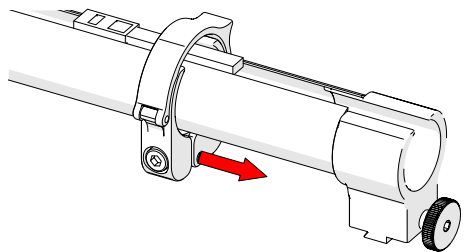

Fig. 82 - Slide clamp onto mount
3. Slide the clamp over the tube and cable management dovetail mount, pinching the tube in between (Fig. 82).